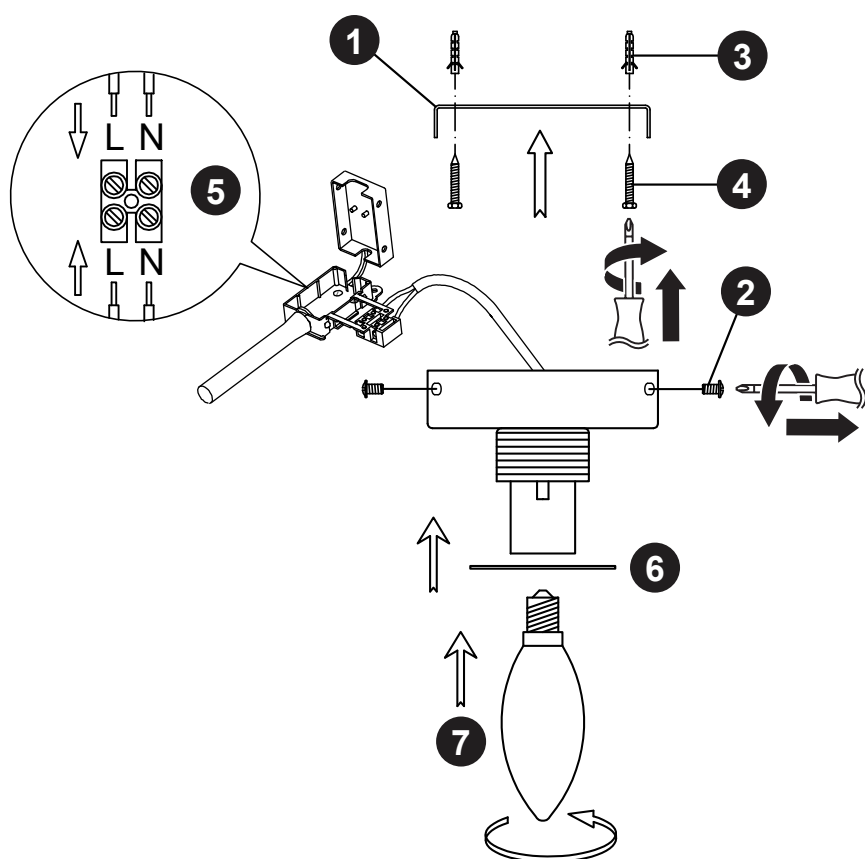

Fig. 1
To fit the glass shades first rotate the outer shade (8) 180°. Place the second rubber washer (9) inside the shade followed by the inner shade (10) see Fig. 1. While carefully holding onto both shades, flip the assembly.